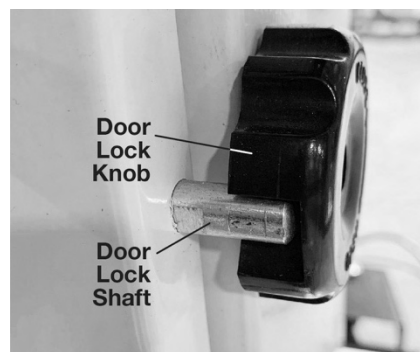

Figure 5-6
2. Slide door hinges over hinge posts. Make sure door shuts properly and door lock knob properly engages the door lock shaft (see Figure 5-6).